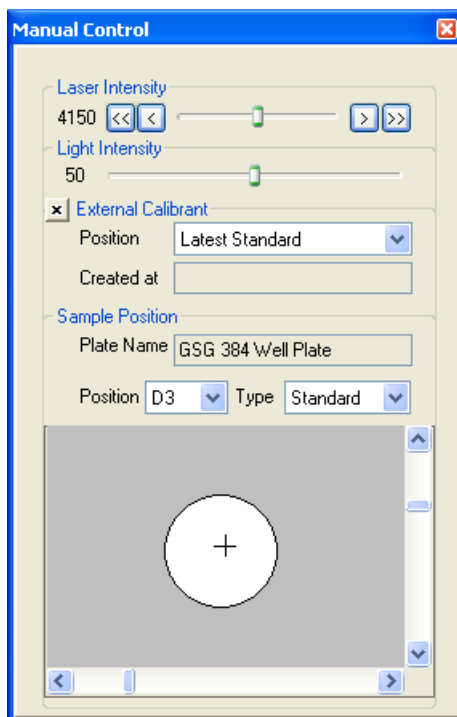

Figure 4-6 Manual Control Window (Sample View)
4. Select **Plate > Show Sample View** to display an expanded view of the selected sample position (Figure 4-6).